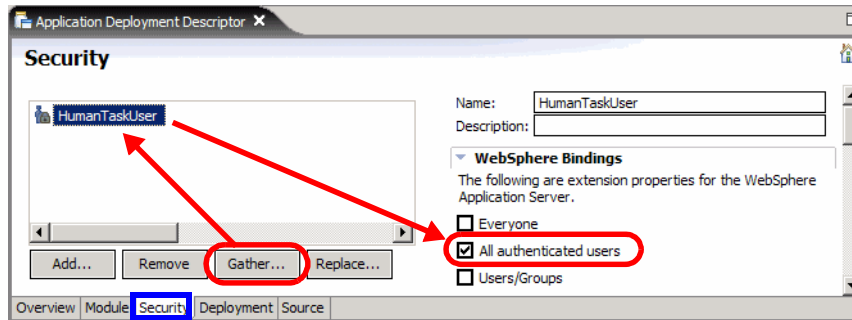

Figure 11-23 Enterprise application deployment descriptor security
- ▶ Click *Gather*, then select the HumanTaskUser and select *All authenticated users* (Figure 11-23). Save and close the deployment descriptor.